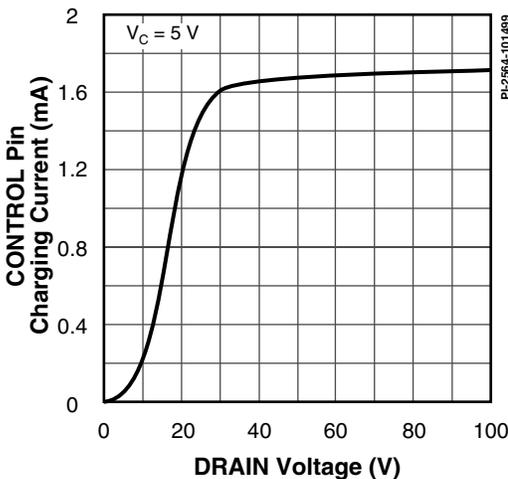

Figure 68.  $I_C$  vs. DRAIN Voltage.
- E. It is possible to start up and operate *TOPSwitch-GX* at DRAIN voltages well below 36 V. However, the CONTROL pin charging current is reduced, which affects start-up time, auto-restart frequency, and auto-restart duty cycle. Refer to Figure 68, the characteristic graph on CONTROL pin charge current (IC) vs. DRAIN voltage for low voltage operation characteristics.